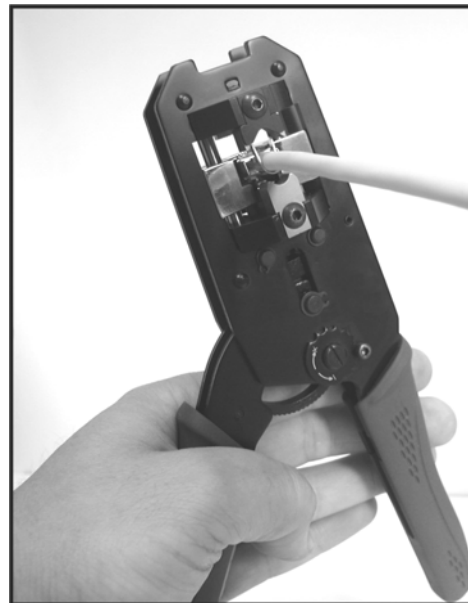

Fig.4.
- ❑ Insert the plug assembly in the tool as shown (Fig.4). Clicking sound of the plugs' locking tab is the end of inserting process.